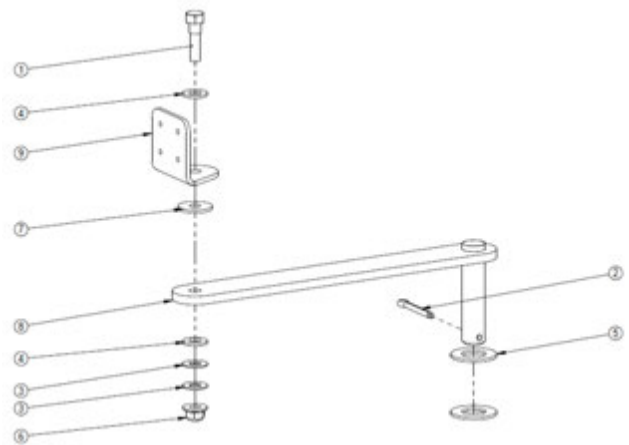

Figure 2: Remove the display holder
- ii. Remove the hex bolt (1) and flange lock nut (6) securing the display holder (9); see **Figure 2**.
- iii. Remove the display holder (9) and washers; see **Figure 2**.